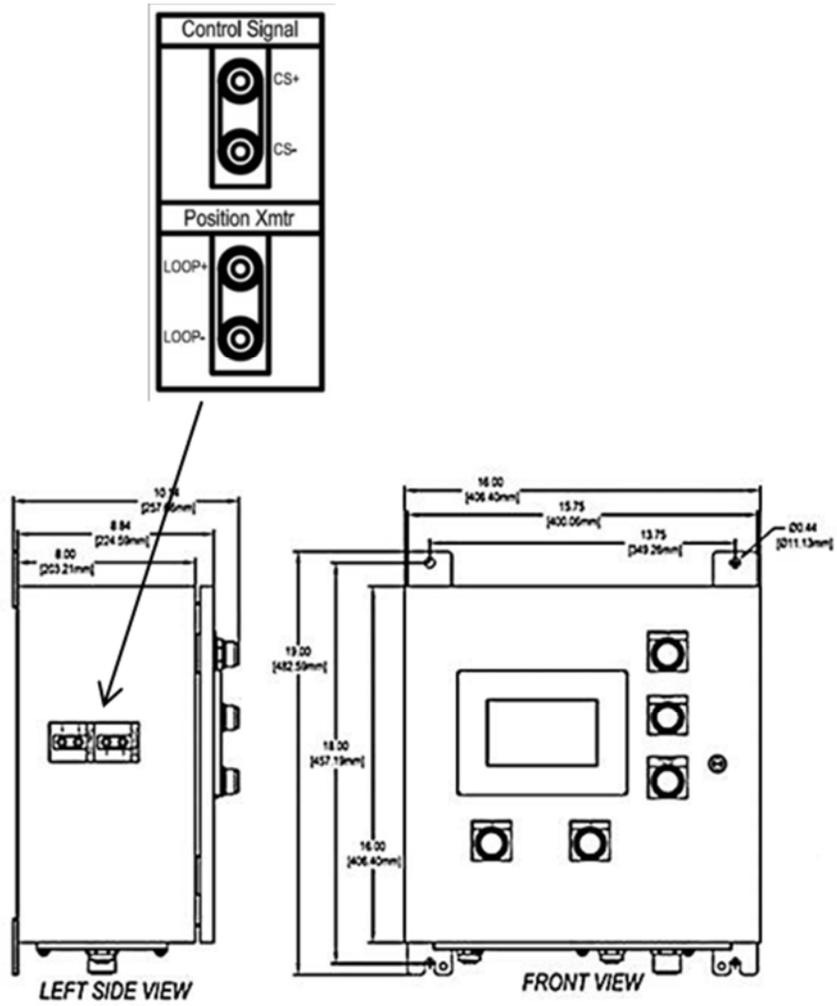

Figure 3: EHTTV Control Panel
There will be four (4) contact features, on the front of the control panel (see figure 3) that will be on the control panel. Those features are described below;